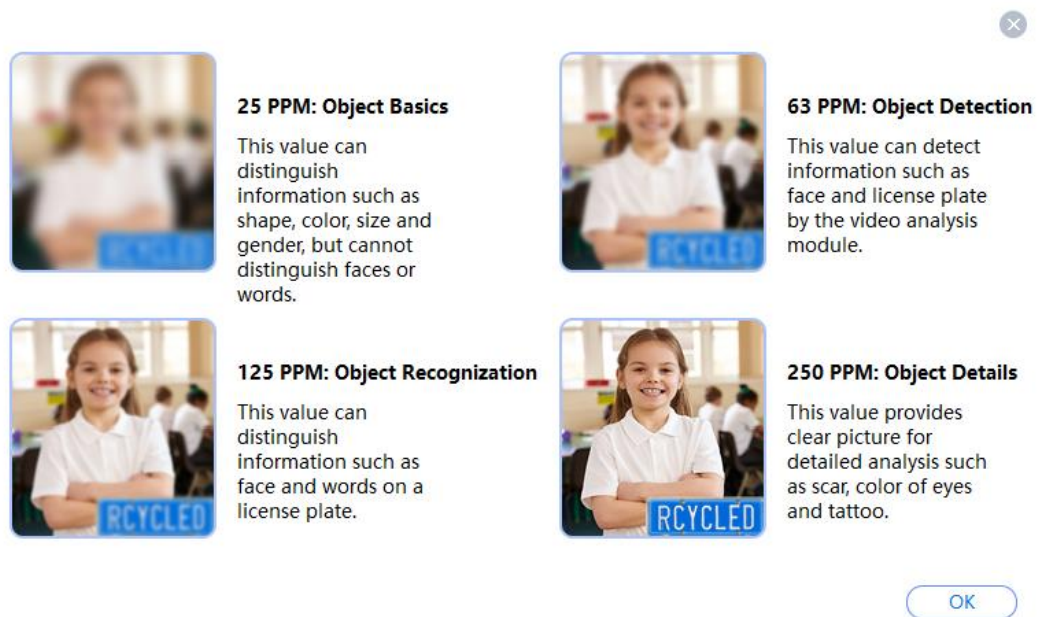

Figure 2-13
- View pixel density definition: Click **About PPM**, the pixel density interface is displayed. See Figure 2-13.